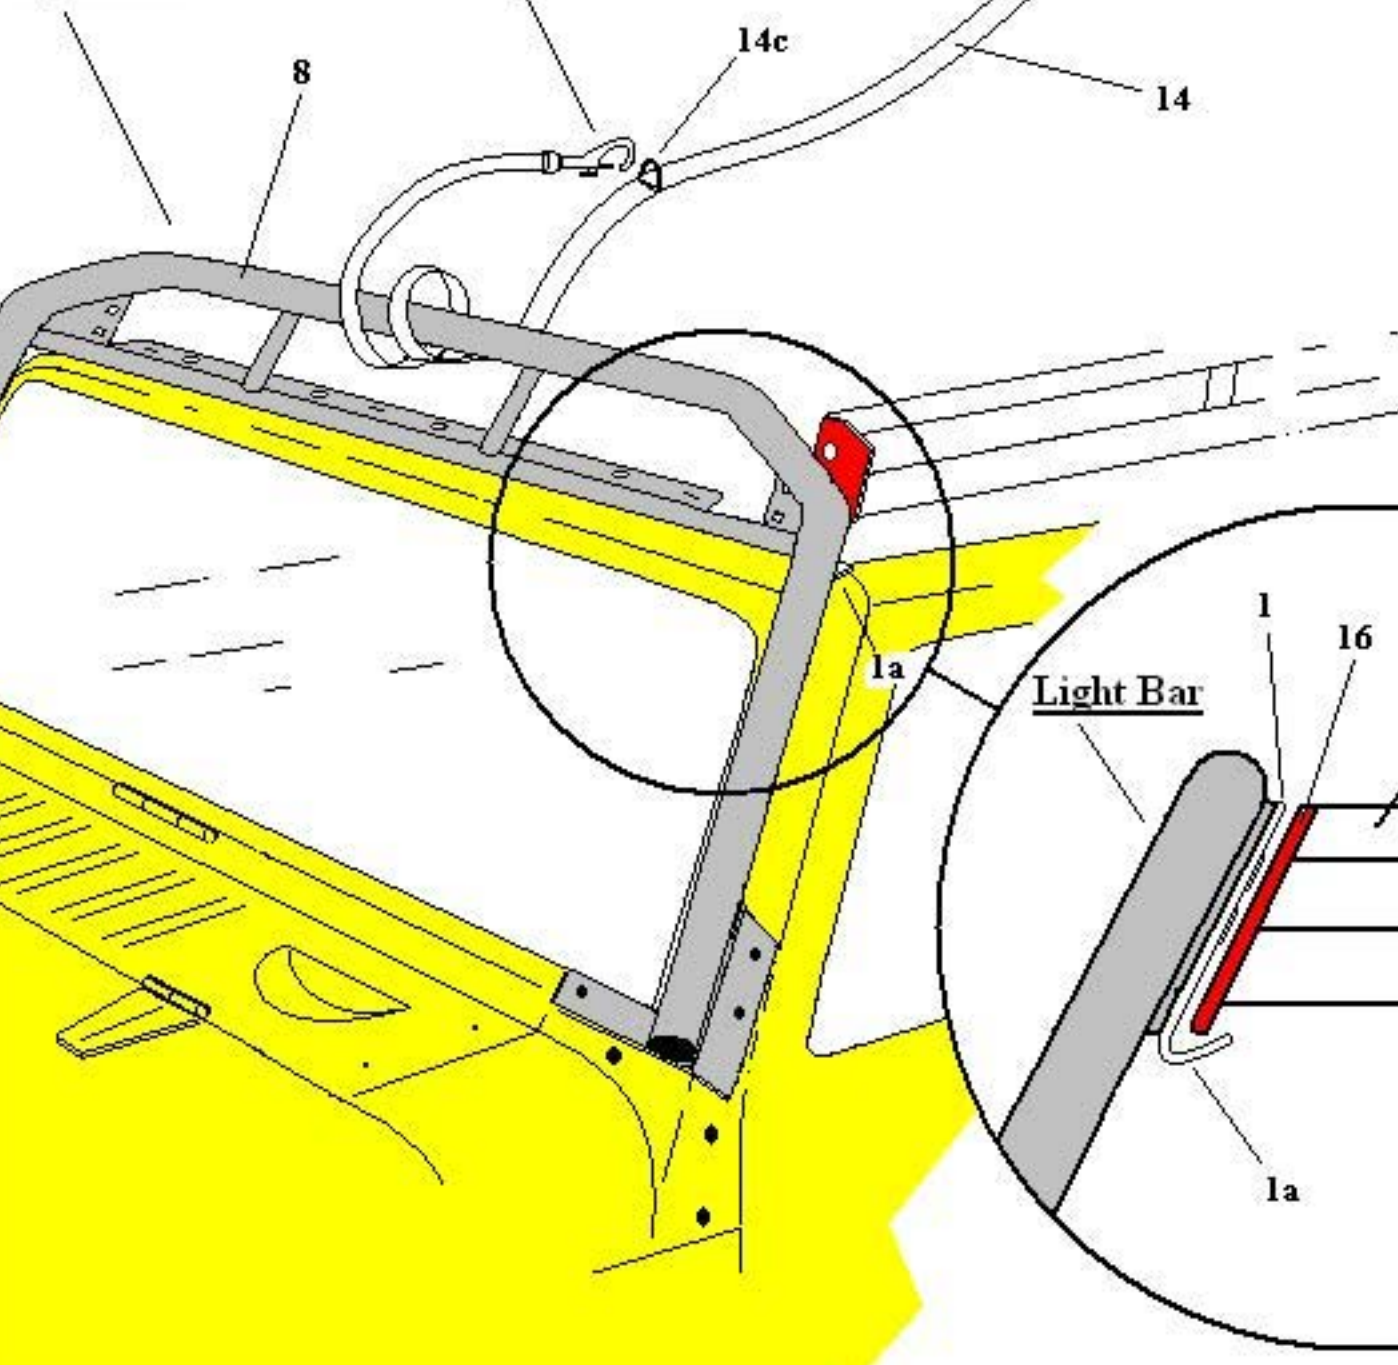

FIG. 4
- 3- Prior to attaching your "Quick Release" with the roof rack still bolted to your light bar remove any cargo you may have on your roof rack then Refer to page 6 Fig 4 and attach Safety Tether (14) supplied with your kit handle end (14a) first to roof rack cross bar (12) as shown. Continue by wrapping the opposite end of the Safety Tether (14b) twice around the light bar as shown then connecting hook end (14b) to "D" ring (14c) pull both ends taut around tubing.
- 4- Refer to page 7 Fig. 6 and fully loosen anti-sway rubber tipped adjustable bolts (21) completely away from vehicle side body both driver and passenger sides. *Note: Make certain you retain the triangular wear plates under each adjustable anti sway rubber tipped bolt when attaching your "Quick Release" as this will prevent body wear from occurring during the loosening and tightening of the adjustable bolt shown on page 7 Fig 6 and Fig.7.* Place a rag or towel on the roof top of your vehicle below the roof rack plates (16) shown on page 6 Fig. 4. This will prevent any damage to your roof top as you remove the bolts holding the roof rack to the light bar as the roof rack will be resting on the roof top. Take caution and release the roof rack gently onto the roof top of your vehicle. Swing your vehicle spare tire carrier in the open position then gently pull back your roof rack grabbing onto the larger roof rack lower tubing pull back roof rack completely and rest rear end of roof rack onto the top of your spare tire. The "Quick Release" safety tether may be slack at this time.
- 13- Refer to page 7 Fig 6 tighten both driver and passenger side anti-sway isolator bolts back in place against the triangular wear plates. While tightening pull out slightly on the rear support bar "C" to cause a good tight grip of the rubber tipped isolator bolt onto the wear plates this will prevent the need to use tools to tighten the 5/16" jam nut, Installation Complete. Remove safety tether (14) page 6 Fig. 4 from roof rack and light bar then fold up and stow in glove box for use at a later date. Your roof rack "Quick Release" can now be used tool free to pull back as often as needed the roof rack for Soft top retraction.